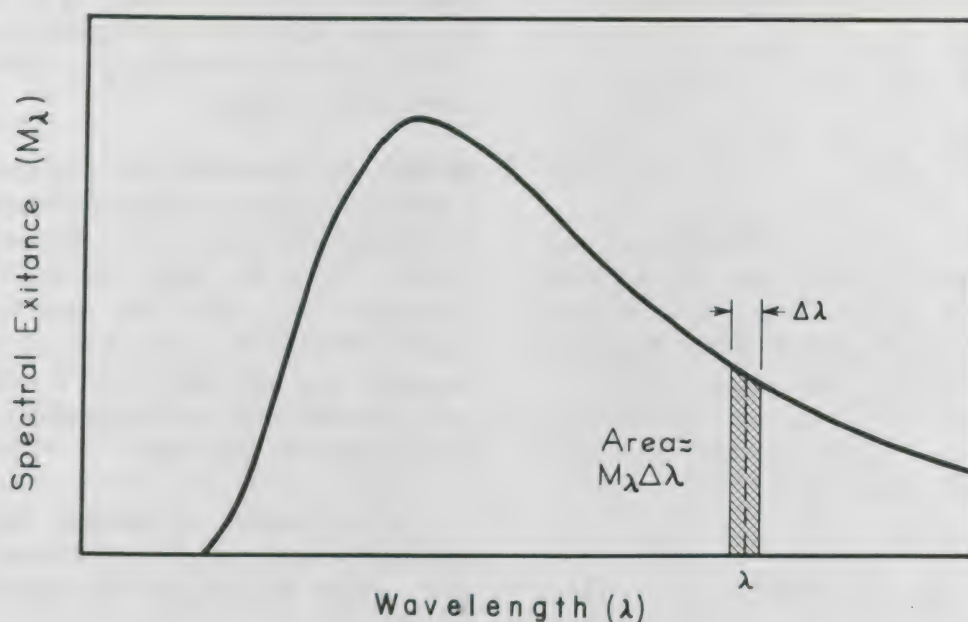

Figure 20.
given wavelength interval. By dividing each such measurement by the corresponding value of the wavelength interval, $\Delta\lambda$, values of spectral radiant exitance, M_λ , can be determined. Each value of M_λ can be correlated with the wavelength λ at the center of its corresponding $\Delta\lambda$. Thus we can construct a graph of spectral radiant exitance versus wavelength for a radiating surface at a certain temperature. Figure 20 shows such a graph similar to the one you obtained in Problem 11.
Figure 20 shows a typical spectral radiant exitance curve for a graybody at a single temperature. How would the curve change if the temperature of the body increased? You already know enough facts to give a reasonable answer. For one thing, Equation (14) tells you that the radiant exitance and there-